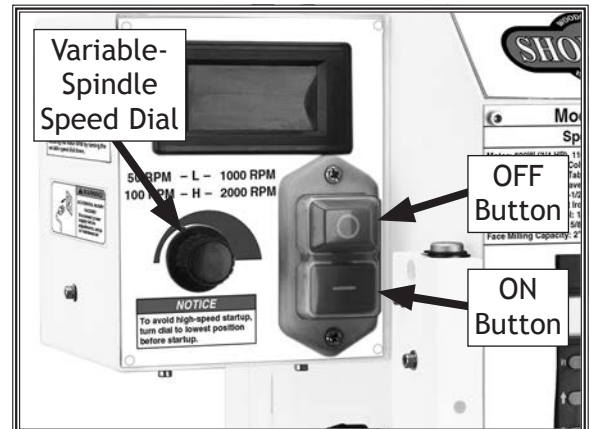

Figure 15. Location of mill/drill controls (front).
2. Press OFF button (see **Figure 15**). This will help prevent unexpected startup when machine is connected to power.